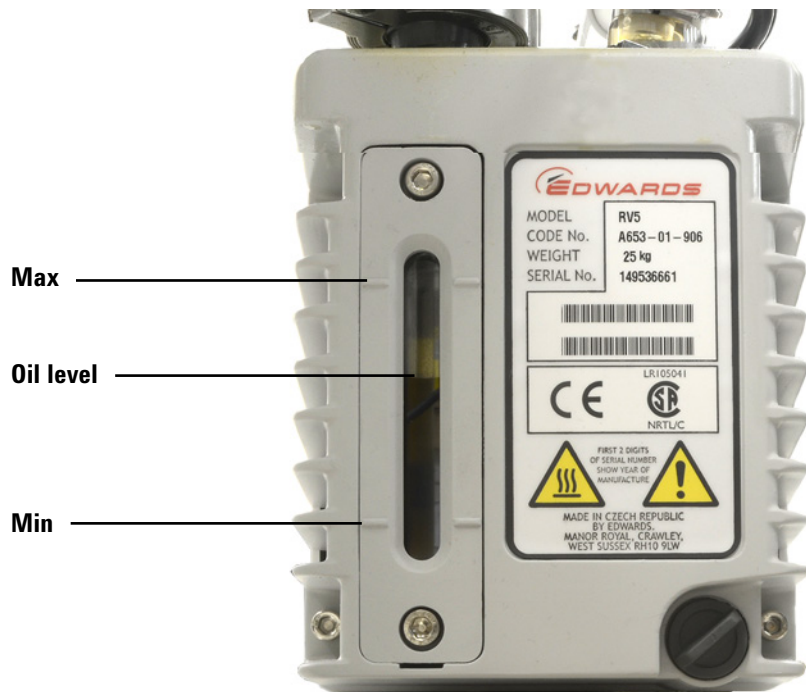

Figure 16 Checking the oil level
- 4 Add new pump oil until the oil level is near, but not over the maximum mark beside the oil level window. See Figure 16 on page 80.
- 6 Add new pump oil until the oil level is near, but not over the maximum mark beside the oil level window. See Figure 16 on page 80.